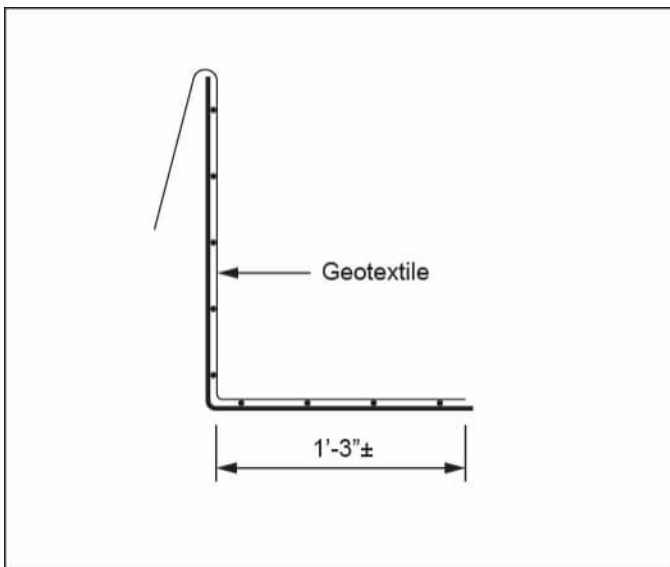

Figure 9: L-basket section showing placement of geotextile.
- Install GeoStrap by wrapping around the lower leg of wire facing (see Figure 9).